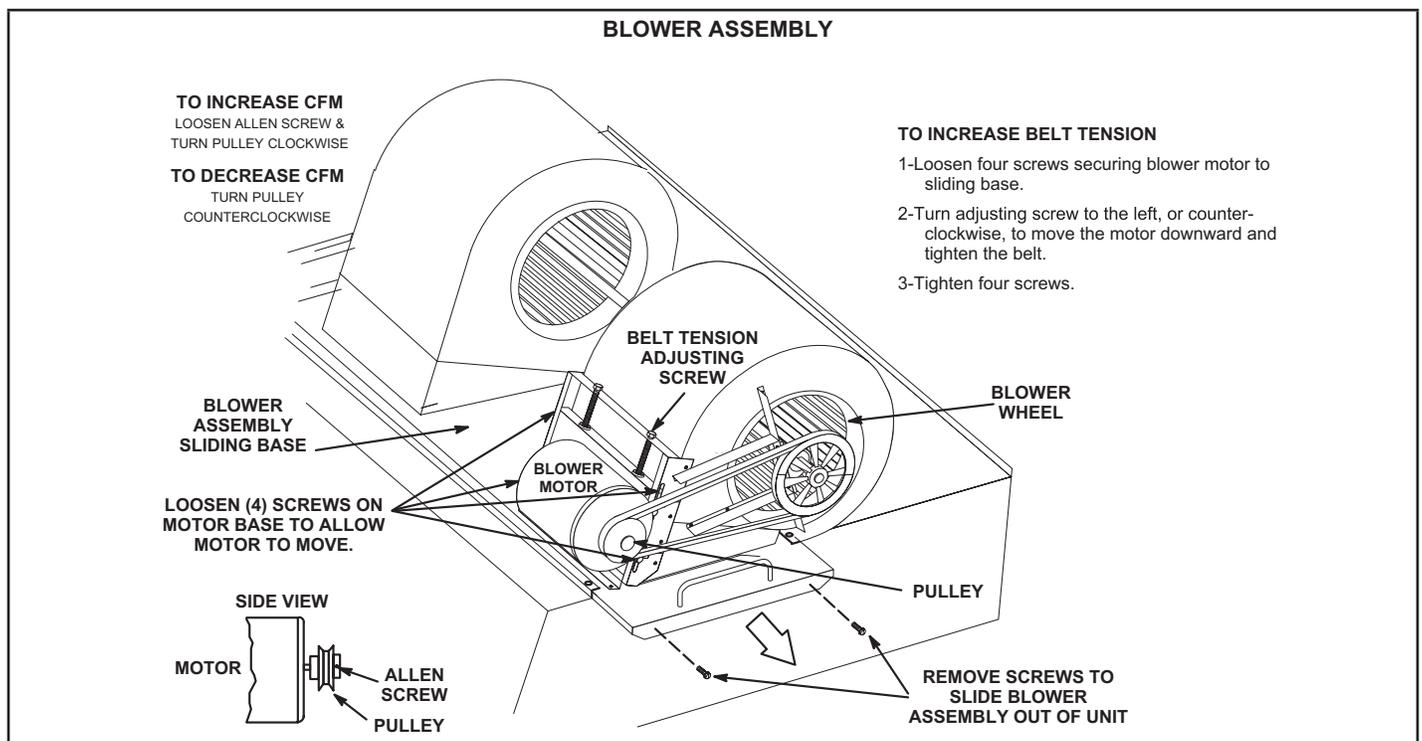

FIGURE 8
The blower compartment in KCC180S-300S units is located between the evaporator coil and the compressor / control section on the opposite side of the condenser coil. The blower assembly is accessed by removing the screws on either side of the sliding base. The base pulls out as shown in FIGURE 8.
The blower assembly is secured to a sliding base which allows the entire assembly to be pulled out of the unit. See FIGURE 8.
- 5 - The RPM can be adjusted at the motor pulley. Loosen Allen screw and turn adjustable pulley clockwise to increase RPM. Turn counterclockwise to decrease RPM. See FIGURE 8.
- 1 - Loosen four bolts securing motor base to mounting frame. See FIGURE 8.